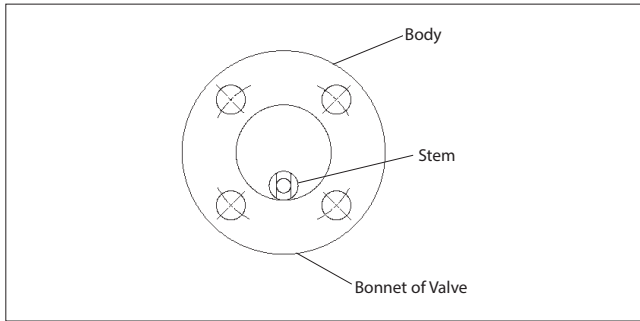

Figure 6. Ball end of stem
- B. Place the body (1) on a flat surface resting it on both flanges with bonnet facing down.
- C. Slide the stem and stem seal subassembly, threaded-end first, along the inside of the body bore towards the stem hole. The blade at the ball end of the stem must be vertical as seen from the insert end of the valve (see **Figure 6**). When the threaded end of the stem reaches the stem bore, guide it down into the bore and swing the